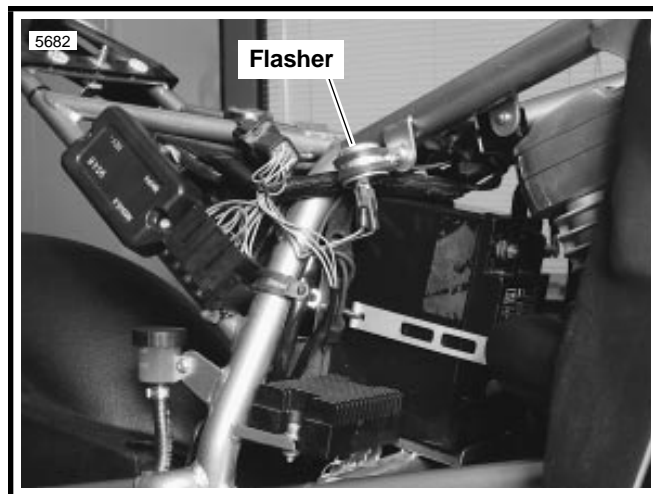

Figure 7-39. Turn Signal Flasher
2. See Figure 7-39. Remove screw from clamp.
1. See Figure 7-39. Connect both wires to flasher.